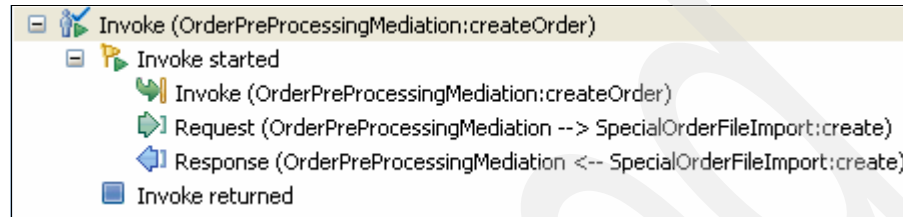

Figure 4-58 Request flow for special orders
2. This time the request is forwarded to the `SpecialOrderImport` as shown in Figure 4-58.